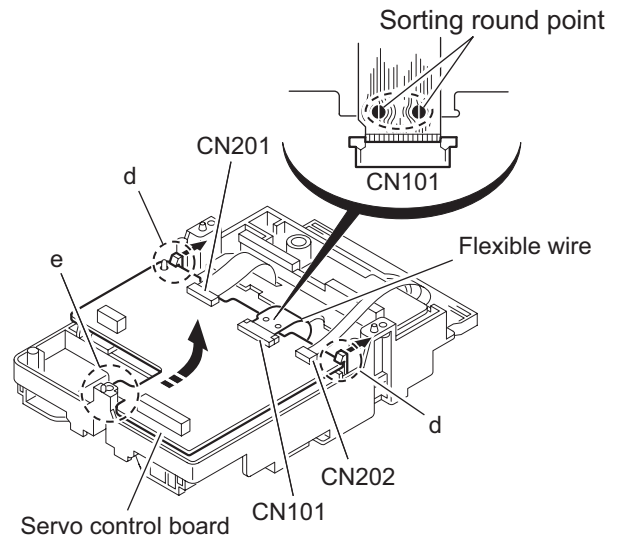

Fig.4
2.3.3 Removing the servo control board (See Fig.4)